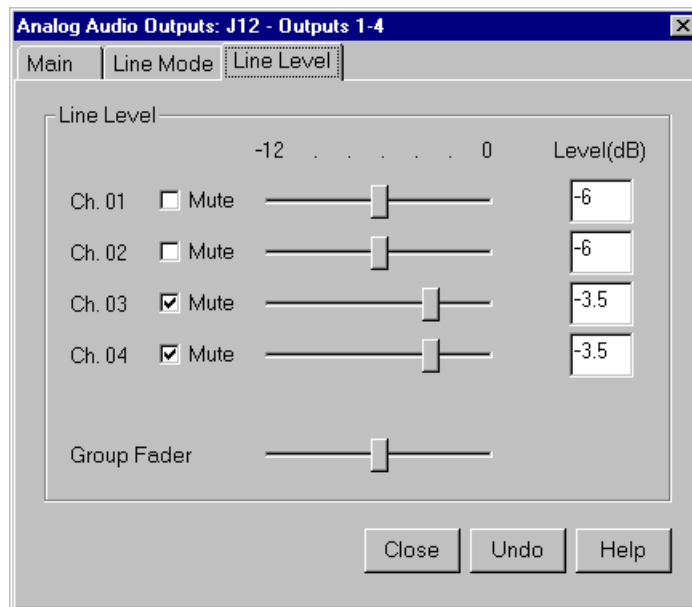

Figure 35. Analog Audio Outputs dialog box, Line Level tab
1. In the Analog Audio Output dialog box, click the Line Level tab (Figure 35).